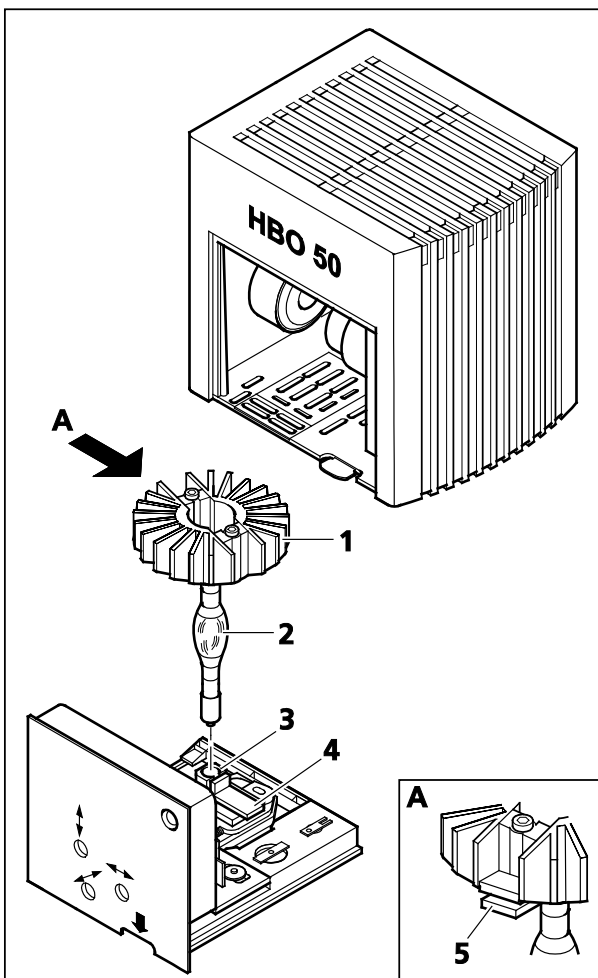

Figure 3-22 Replacing the burner
- Press the spring lever (Figure 3-22/5) at the heat sink, pull the heat sink (Figure 3-22/1) upwards and off the inserted dummy or off the used burner (Figure 3-22/2), and lay it down carefully.
- Press down the spring lever (Figure 3-22/4), and pull off the dummy or burner (Figure 3-22/2) upwards from the lamp socket (Figure 3-22/3). Release the spring lever.
- Press down the spring lever again (Figure 3-22/4), and insert the burner into the lamp socket (Figure 3-22/3). Make certain that you do not touch the burner's glass bulb while doing so. Release the spring lever.
- Press the spring lever (Figure 3-22/5) at the heat sink, and put the heat sink (Figure 3-22/1) over the burner.
- Check for correct fit, and release the spring lever (Figure 3-22/5).